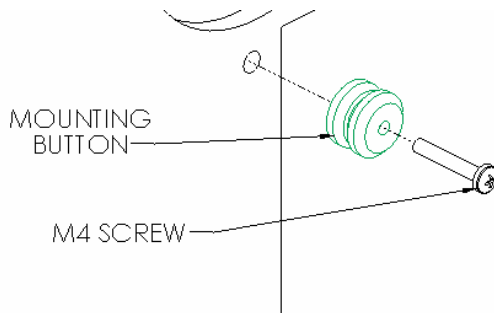
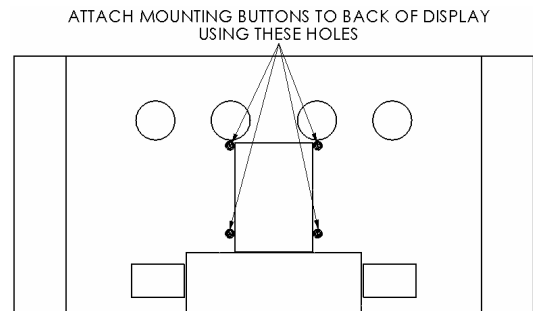

Figure 2
Figure 3
1. Attach mounting buttons to display using M4 screws (see Figure 2 & Figure 3).